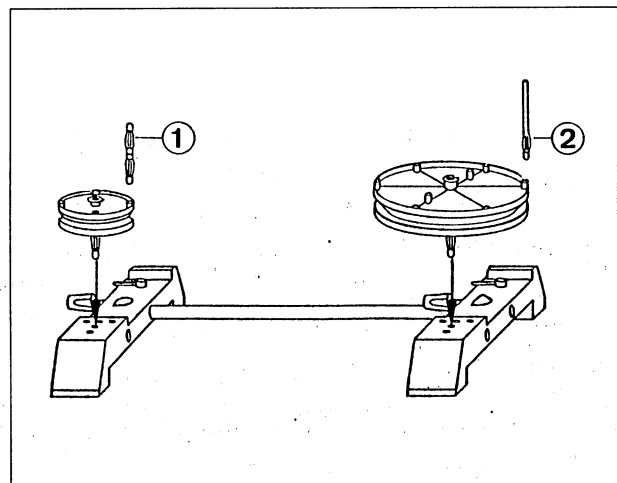

Fig. 1 How to assemble a belt-driven transmission:
1. Set up the apparatus as shown in fig. 1.
3. Plug the pulleys (gearwheels) into the centre holes in the stand bases \blacktriangleright Fig. 1.
4. Insert the coupler plug and spindle as shown in fig. 1.